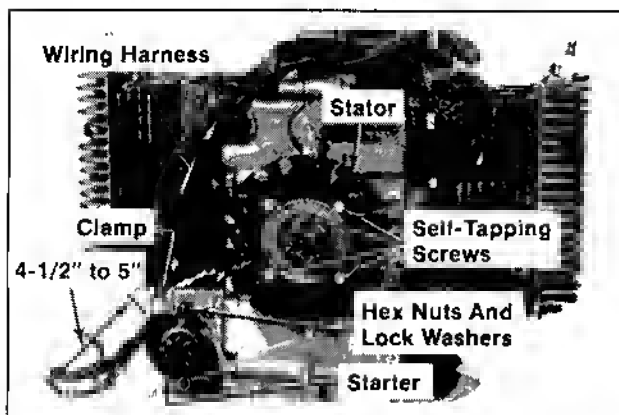

Figure 11-35. Installing Stator and Electric Starter.
1. Install the stator and self-tapping screws. Refer to Figure 11-35.
1. Install the starter, wiring harness clamp, split lock washers, and hex. nuts. Refer to Figure 11-35.